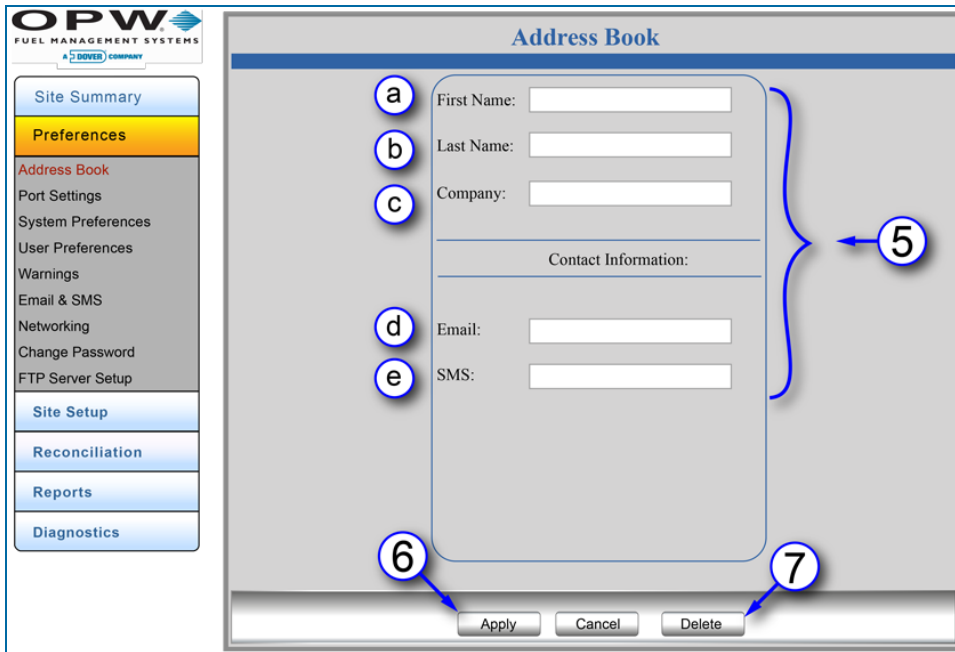

Figure 3-2 Contact Information
6. Click **Apply** to save the contact. Repeat these steps to enter more contacts. When the system has finished updating, the **Address Book** screen (Figure 3-2) will come into view again. You can review added or edited contact information from this screen.